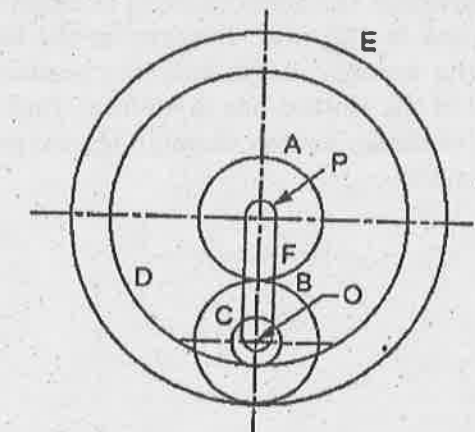

Figure 14(b)
- (b) A compound epicyclic gear is shown in Fig. 14(b). The gears A, D and E are free to rotate on axis P. The compound gear B & C rotate together on the axis Q at the end of arm F. All gears have equal pitch. The number of external teeth on gears A, B and C are 18, 45 and 21 respectively. The gears D & E are annular gears. The gear A rotates at 100 rpm in anticlockwise direction and gear D rotates at 450 rpm clockwise. Find the speed and direction of the arm and the gear E. (13)